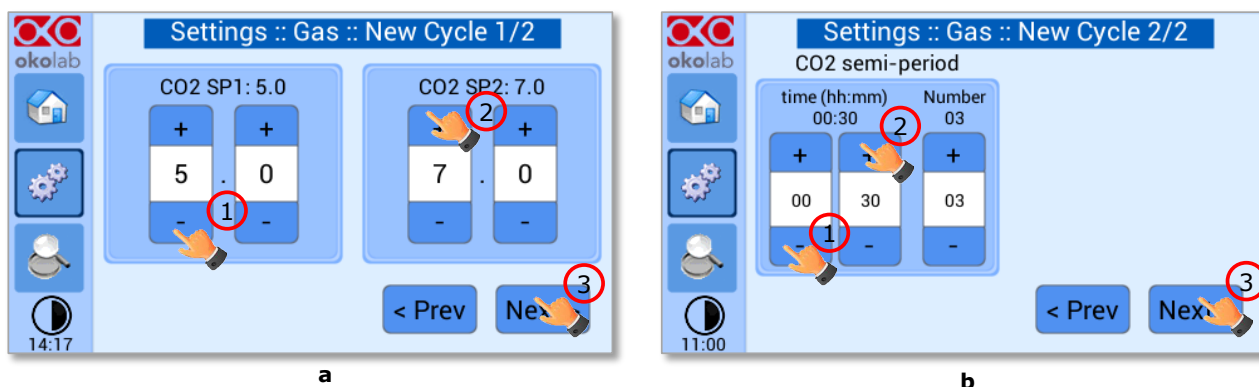

Figure 40. CO₂ Concentrations cycles settings (a - b).
1. Choose the two CO₂% concentrations between which you want to switch (SP1: Set Point 1 and SP2: Set Point 2, as shown in Figure 40 a).
3. Set the number of cycles ("Number") you want the system to perform (see Figure 40 b).